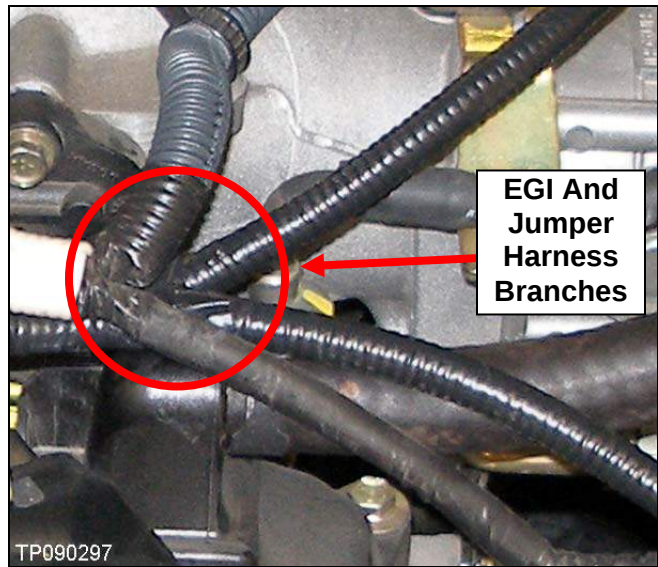

Figure 7
- f. Position the jumper harness's branch (where the harness splits) next to the EGI harness's branch (see Figure 7).
- Again, make sure the jumper harness is routed below the EGI harness (see Figure 7).